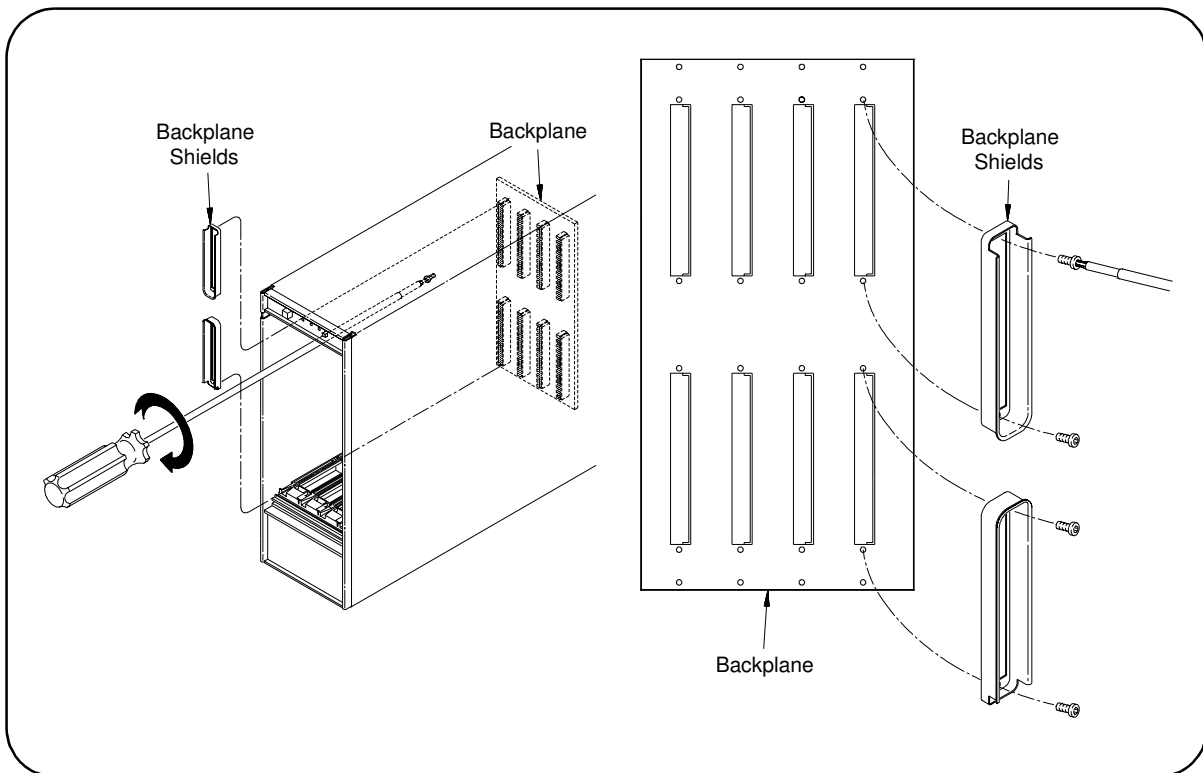

Figure 2-22. Positioning the Backplane Shields on the Connectors.
- 1 **Position Shields.** Position the shields over the backplane connectors as shown in Figure 2-22. Two connector shields and four screws are required for each slot.